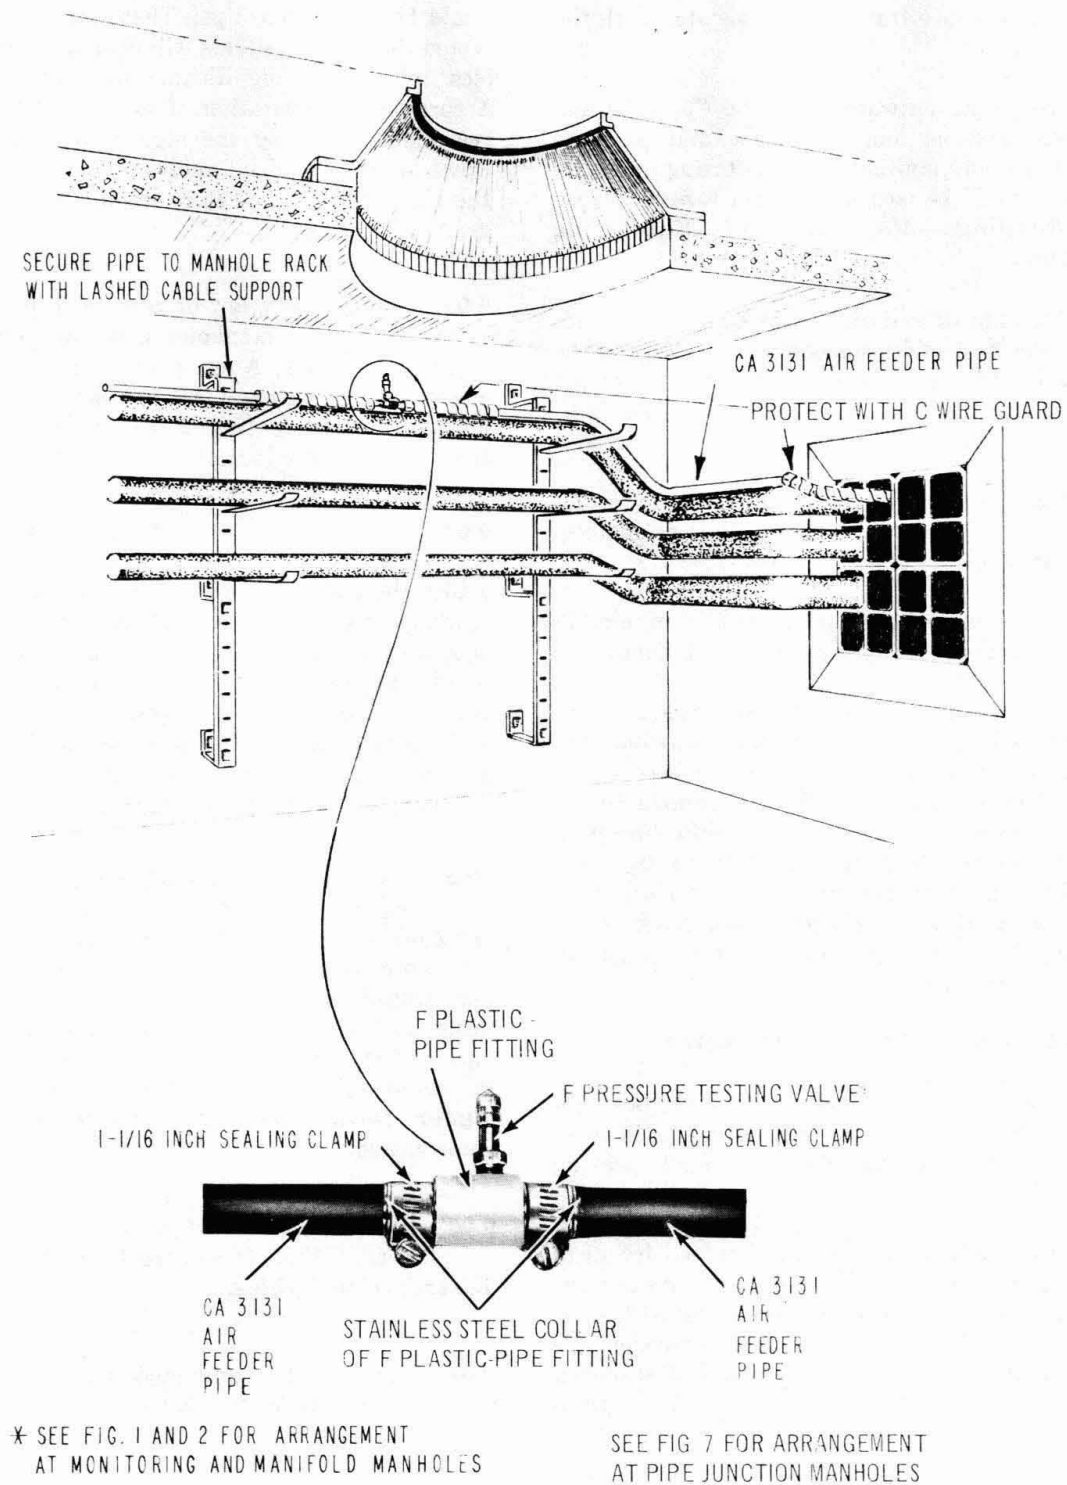

Fig. 15—Typical Arrangements of CA-3131 Air Feeder Pipe (Other Than at Monitoring, Manifold, and Pipe Junction Manholes)
- (1) Protect the pipe with a C wire guard where it comes out of the duct.
- (2) Place the pipe in the top position of the manhole rack and secure it to the rack with a B cable tie.
- (3) After making the required pipe connection or termination, place C wire guards on the pipe to protect it across the splicing area.
- (4) A typical arrangement at other than manifold or monitoring manholes is shown in Fig. 15. See Fig. 2 for details at a monitoring manhole.